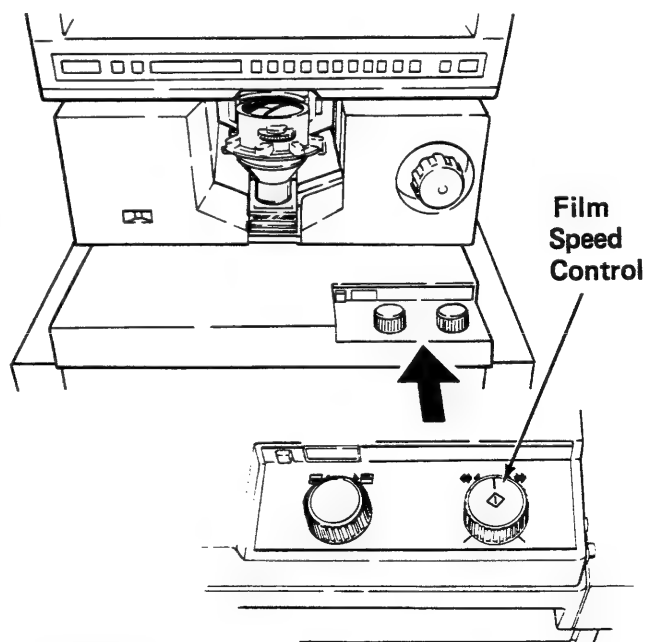

Figure 2-3F
9. Turn the M-654 Film Speed Control to "0" (Figure 2-3F).